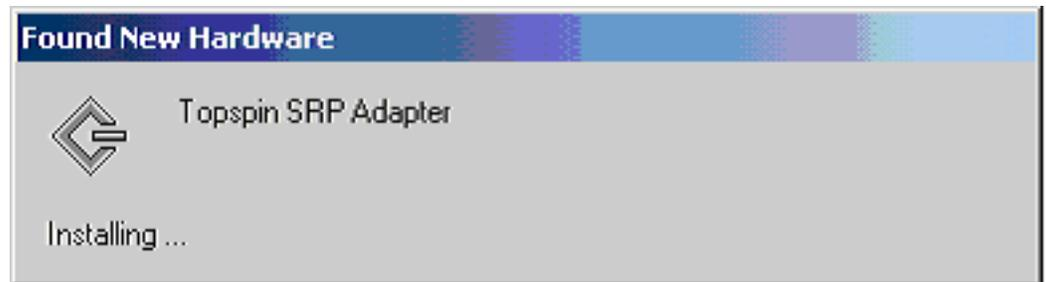

Figure 2-3: Found New Hardware Alert.
1. Log in to your Windows 2000 host. A **Found New Hardware** alert appears (Figure 2-3).